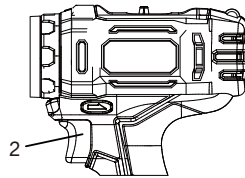

Fig. 7
1. To start drill, gently squeeze the trigger switch (2) (Fig. 7).